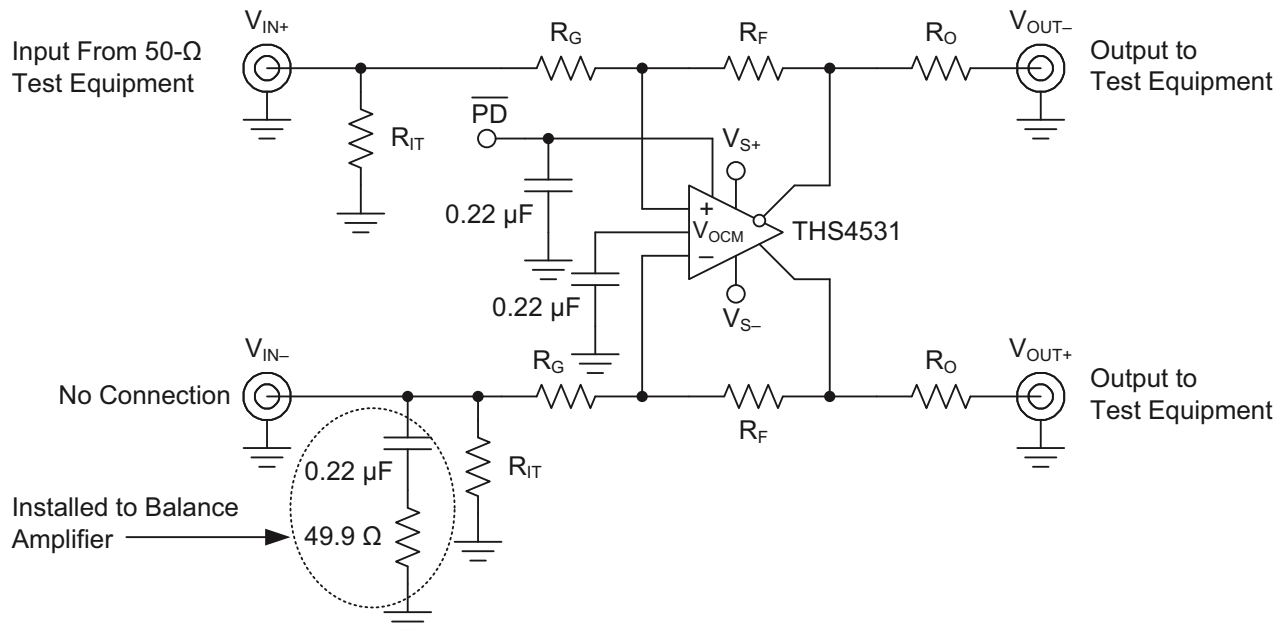
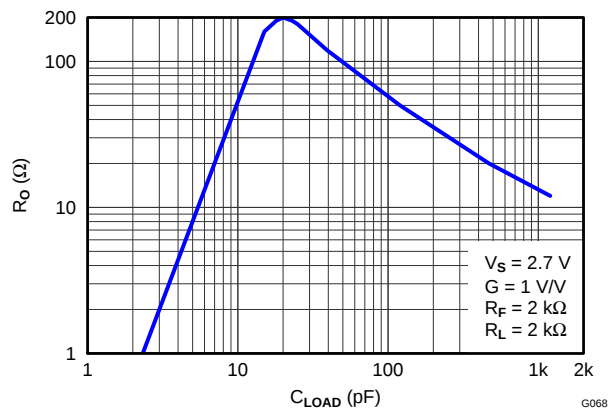
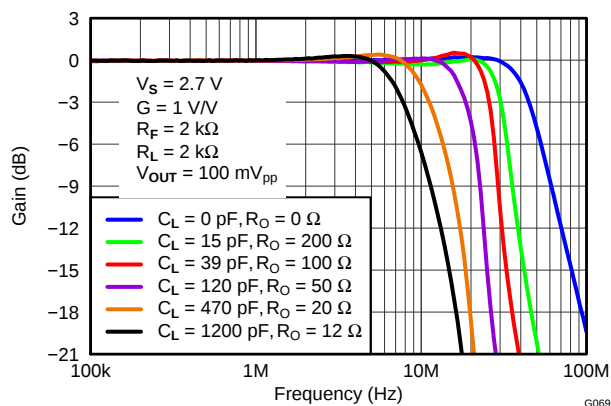

Figure 69. Slew Rate, Transient Response, Settling Time, Z_O , Overdrive Recovery, V_{OUT} Swing, and Turn-on/off Test Circuit
Figure 78. Recommended Series Output Resistor vs Capacitive Load for Flat Frequency Response
Figure 79. Frequency Response for Various R_O and C_L Values
The circuit shown in Figure 69 is used to measure slew rate, transient response, settling time, overdrive recovery, and output voltage swing. Turn on and turn off times are measured with 50 Ω input termination on the $\overline{PD}$ input, by replacing the 0.22 μ F capacitor with 49.9 Ω resistor.
Inserting R_O will compensate the phase shift and restore the phase margin, but it will also limit bandwidth. The circuit shown in Figure 69 is used to test for best R_O versus capacitive loads, C_L , with a capacitance placed differential across the V_{OUT+} and V_{OUT-} along with 2k Ω load resistor, and the output is measure with a differential probe. Figure 78 shows the optimum values of R_O versus capacitive loads, C_L , and Figure 79 shows the frequency response with various values. Performance is the same on both 2.7V and 5V supply.
4. A series output resistor is recommended to be placed as near to the output pin as possible. See Figure 78 "Recommended Series Output Resistor vs. Capacitive Load" for recommended values given expected capacitive load of design.